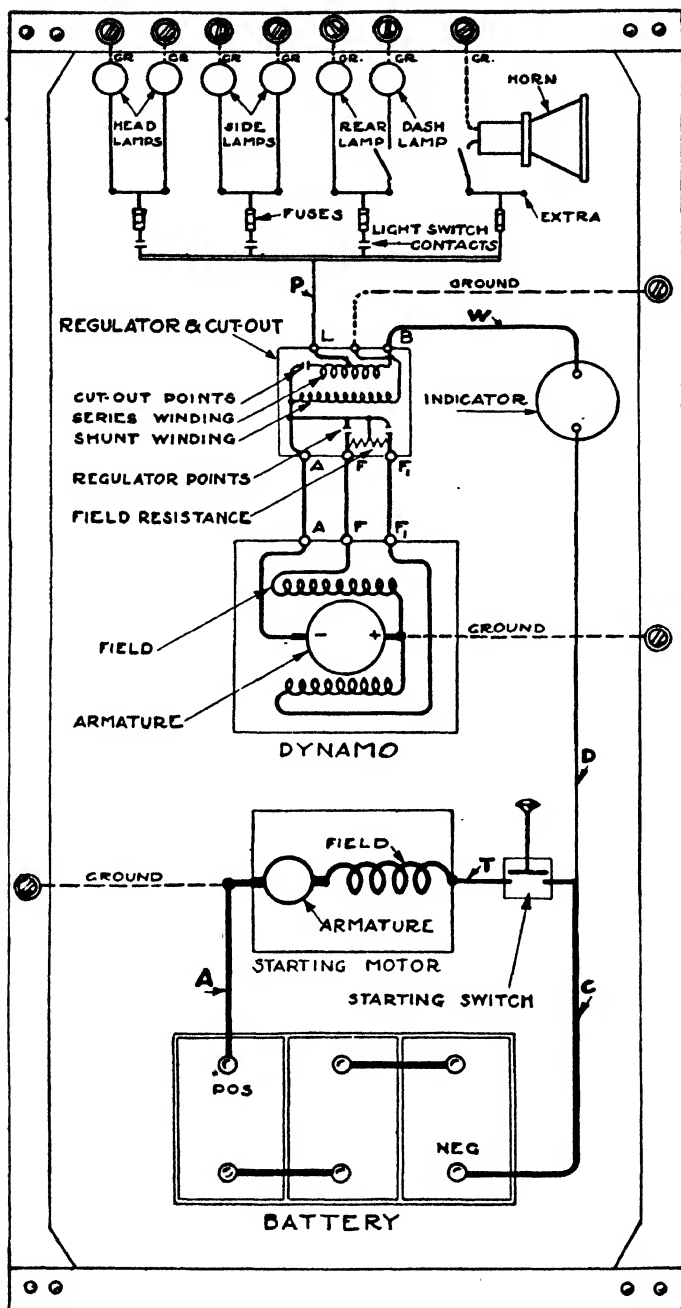

Fig. 285 Wiring Diagram for Gray & Davis Single-Wire System with Grounded Motor
*Grounded-Motor Arrangement.* Fig. 285 shows the Gray & Davis wiring diagram with grounded motor. Cable *A* from the battery positive terminal connects to the grounded terminal of the starting motor. Cable *T* connects an insulated terminal on the starting motor to one of the starting-switch terminals. Cable *C* from the starting switch terminal connects to the battery negative terminal, thus completing the circuit. On some makes of cars, cable *A* instead of
**Instructions.** When the indicator does not indicate *charge* though the engine is speeded up, but indicates *discharge* with the engine stopped, the dynamo or the regulator may not be working properly. To verify this, turn on all the lights, run the engine at a speed equivalent to 10 miles per hour, disconnect the wire from terminal *B*, Fig. 285, at the regulator cut-out; if the lights fail, either the dynamo or the regulator is at fault. Reconnect the wire to terminal *B* and remove the side plate from the dynamo to examine the brushes. Slide the brushes in and out, and see that they slide freely in the brush holders and make good contact with the commutator and that the wires from the brush holders and the fields to the dynamo terminals are firmly connected. If the dynamo is belt-driven, the belt may not be tight enough to rotate the dynamo at sufficient speed to charge the battery. The commutator, if coated or dirty, may be cleaned while rotating by holding a cloth slightly moistened with oil against it.